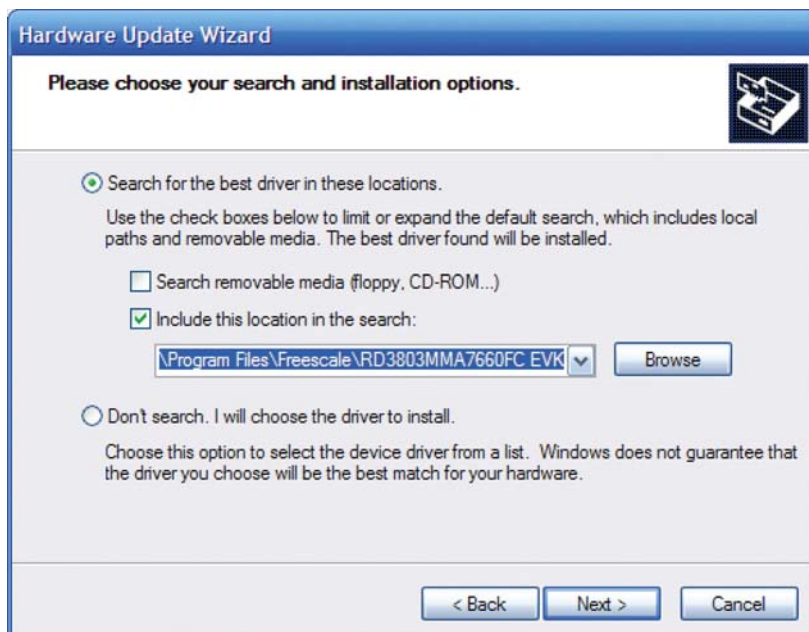

Figure 6. Hardware Update Wizard
4. In the “Hardware Update Wizard” screen, select “Include this location in the search”. Include the folder location where the application was installed in, i.e. C:\Program Files\Freescale\RD3803MMA7660FC Evaluation Kit Setup (Figure 6) Select “Next” and the drivers will install.